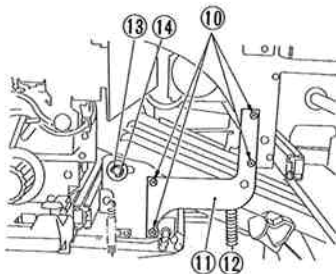

Figure 4-352
14) Remove the four mounting screws ⑩, and detach the support plate ⑪; see Figure 4-352.
15) Remove the spring ⑫ to which the feeder assembly is suspended.
16) Remove the E-ring ⑬ and detach the bearing ⑭ from the feeder assembly support shaft, and pull out the feeder assembly to the front.